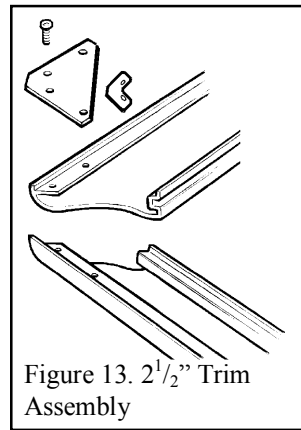

Figure 13. 2 1/2" Trim Assembly
1. Assemble the left and right side channels to the top channel using the inner and outer corner fixing brackets and 12 thread cutting screws provided. See figure 13.